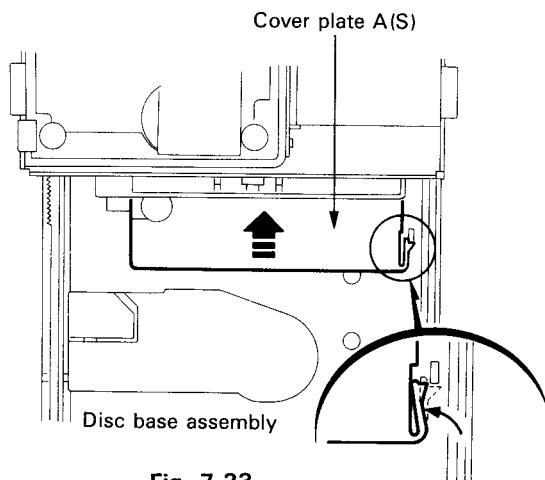
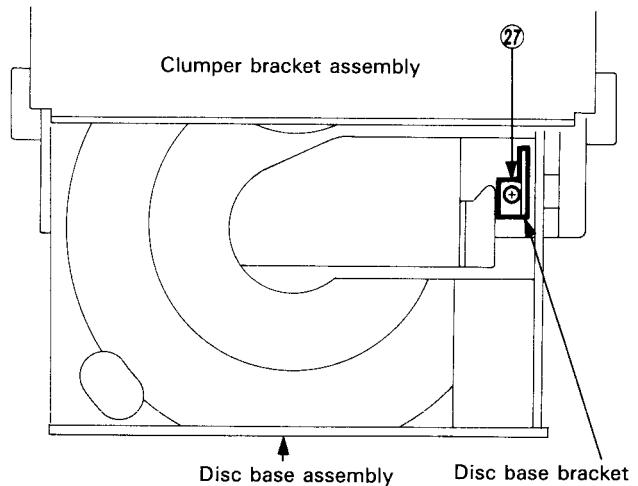

Fig. 7-23
Fig. 7-24
(Refer to Figs. 7-23 and 24)**
3. After turning over the CD changer mechanism assembly, turn the gear G4 manually in the direction of arrow as shown in Fig. 7-23, and raise the CD mechanism assembly.
5. After turning over the CD changer mechanism assembly, move the point C engaging the cover plate A (S) and disc base assembly in the direction of arrow and disengage the above plate and assembly.
6. After turning the CD changer mechanism assembly back to the normal position, remove the one screw 27 retaining the disc base bracket visible from notched window of the disc base assembly (Refer to Fig. 7-24).